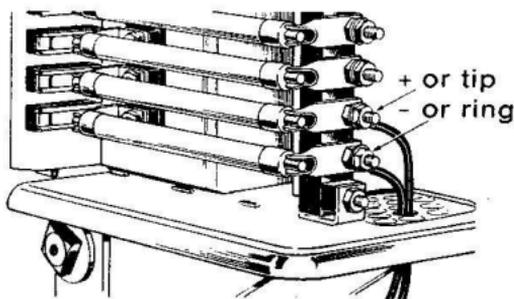

Figure 5. Polarities and drop-wire connections at a typical pole-mounted protected cable terminal.
*The *r* alliteration *ring=right* applies at a strand-mounted or sheath-mounted cable terminal or at an *unprotected* pole-mounted or wall-mounted cable terminal. At a *protected* pole-mounted or wall-mounted cable terminal, use instead the *t* alliteration *tip=top*, and connect the \pm line to the *upper* terminal-stud of the pair, as in figure 5.